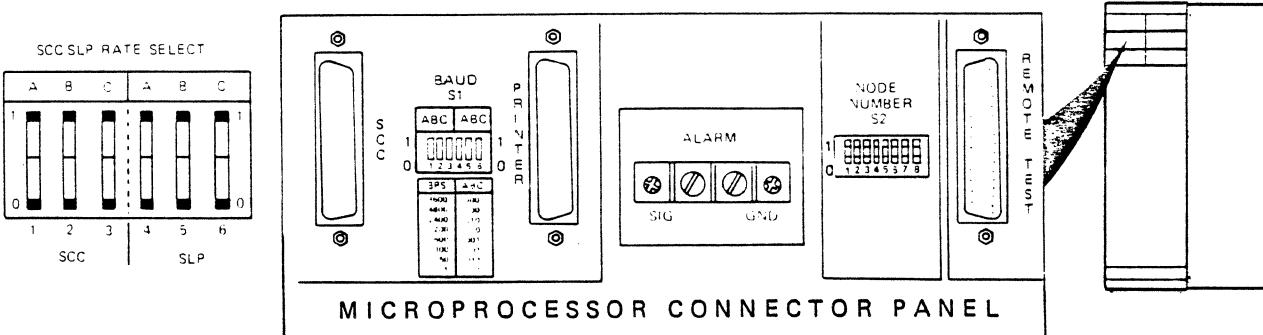

Figure 6-4. S1 Dipswitch Baud Rate Settings on the Microprocessor Connector Panel
- Set the baud rate on switch S1 (Figure 6-4) for the SCC (switch control console, IBM 3161) to 4800.